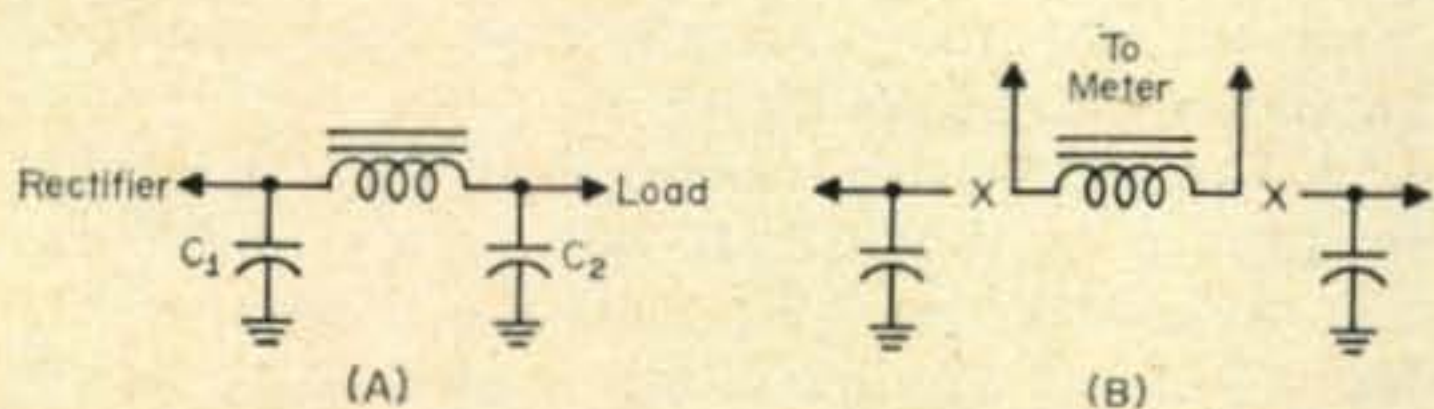
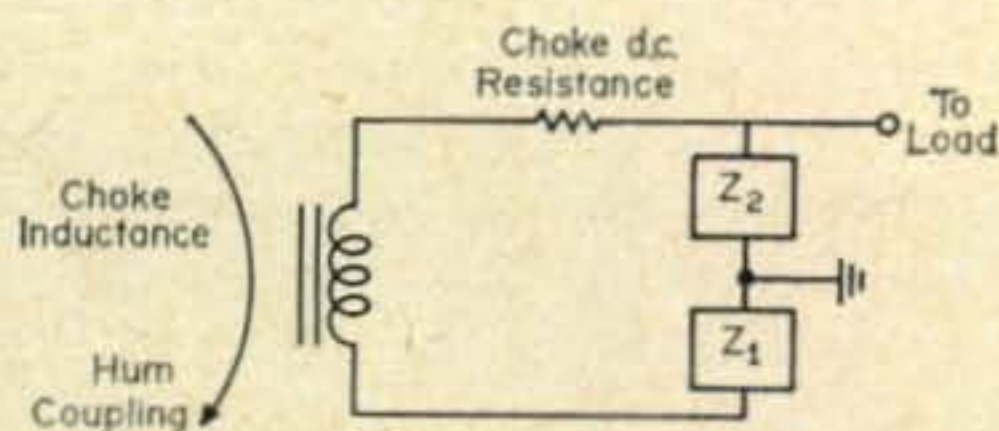
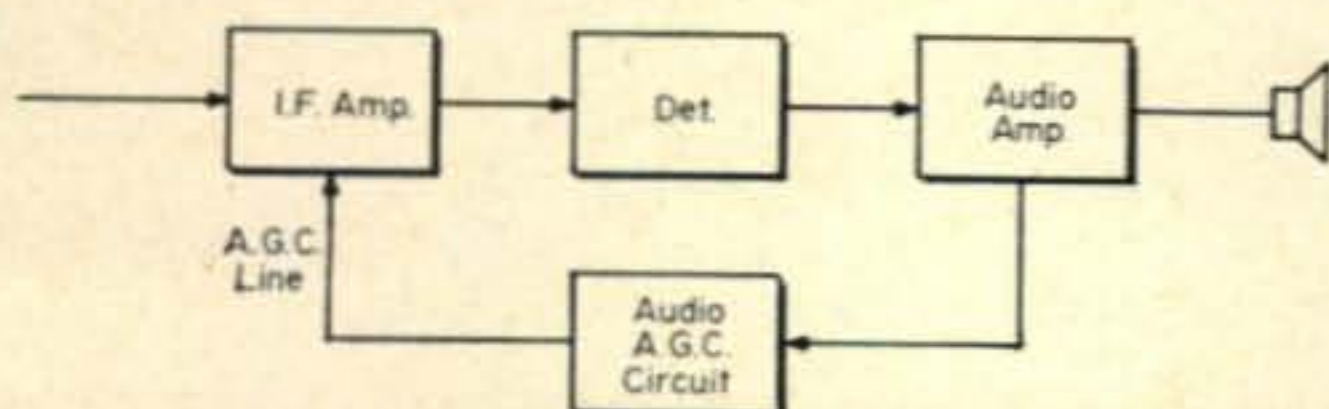

Fig. 1—(A) Basic pi-filter circuit encountered in most power supplies. (B) A simple but inaccurate method of checking the hum voltage pick-up.
Fig. 2—Equivalent circuit shown above illustrates the choke hum circuit, and shows voltage divider effect of filter capacitors.
Fig. 1—Block Diagram of the basic a.g.c. circuit.
Fig. 2—Placement of calibrator components on the front of the Veroboard. Solid dots indicate soldered connections on the rear. Break in copper strips are made at points marked X. Horizontal lines between holes indicate part of board foils that are actively engaged in the circuit. Holes at A and B should be drilled to size #26 for 6-32 mounting screws. The two jumpers across the battery hold it in place.
Next, drill out the specified holes for the two mounting screws. See fig. 2. After this, place the board centered in the Minibox with about $1/16''$ clearance at the sides so that the cover may slide on properly. Then mark the hole locations on the bottom of the box and drill #26 holes through it accordingly. This will facilitate accurate hole locations for later installation.
Figure 2 shows where the parts are to be mounted and how they are automatically inter-
Figure 1(A) shows a common filter configuration. Figure 1 (B) shows the easy way to do the test, without thinking. In fig. 2 the irrelevant parts of the circuit are omitted. The choke is drawn as a generator supplying a certain hum
Referring to fig. 2 in the original article, the Oscalator track is a sub-satellite track that has been compensated in relation to a rotating earth. If the earth were standing still, the actual arc, starting at 0° W. Long. on the equator, would go through 270° W. Long. at 70° N. Lat. and over to 180° W. Long. on the opposite side of the equator.
The method described for plotting the track should be correct for near-circular orbits having periods up to about 200 minutes. For very high-altitude or longer-period orbits, the determination, for points A, B and C (fig. 2) is slightly different. We hope to cover this in a subsequent article together with data pertaining to elliptical orbits.
Figure 1 shows the block diagram of the conventional audio a.g.c. arrangement as used by Luick. Figure 2 indicates the block diagram of the modification with selectivity derived from the audio filter. Connection (A) permits muting as mentioned above, while connection (B) provides the elimination of this effect.
Table I indicates, in arbitrary units, the a.g.c. output voltage, the corresponding i.f. gain, and the resulting speaker input voltage for three situations: A, for the conventional arrangement of fig. 1; B, for the same arrangement, except with the audio filter added to restrict output response only; and C, with the audio a.g.c. voltage derived from the audio filter output. Here, for simplicity, linearity has been assumed for all parts of the circuit. It is seen that from situation A, with two units of desired signal in the pres-
Fig. 2—Block diagram of an audio a.g.c. system using an audio filter for improved performance. Switch S1 permits the filter to be switched out of the a.g.c. loop and in the actual circuit eliminates the filter from the audio circuit also.
Fig. 2—Circuitry of two-stage transistorized a.f. amplifier (A) as installed on Veroboard at B. At C is shown how circuit modifications (dashed components at A) can be added to the Veroboard.
Now let us go a bit further and take a look at fig. 2 where the schematic for a simple two-stage transistor a.f. amplifier is shown at A, with the arrangement on the Veroboard at B. Here all the components are placed at right angles to the copper strips. This usually will be the quickest and simplest way of setting up the layout. Note that all the parts are arranged in almost the same sequence as they appear in the schematic.
Now, suppose we wish to rearrange the bias circuitry (R_5) and add emitter bias too (R_6 & R_4). Fig. 2 illustrates how modifications, such as these, can be made to existing circuitry without requiring a new board or a re-etching job which would be the case if conventional printed-circuit board techniques were used. This also